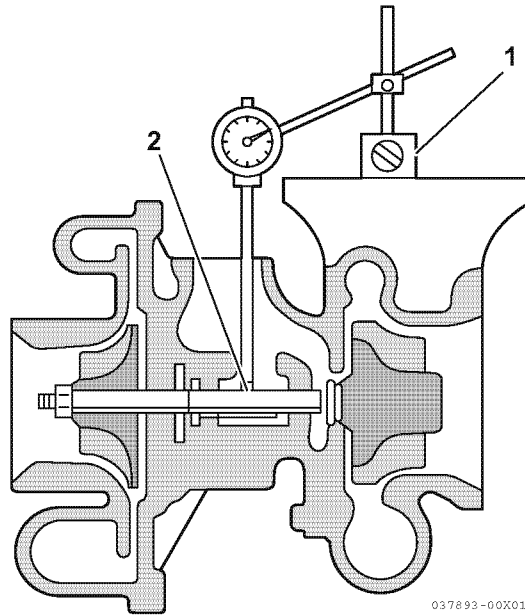

Fig.24-16
- 1 - Set up a dial indicator as shown in (1, Fig.24-16) to the turbocharger housing, and insert the gauge into the lubricating oil supply hole and place it against the shaft of the rotor (turbine shaft) (2, Fig.24-16).